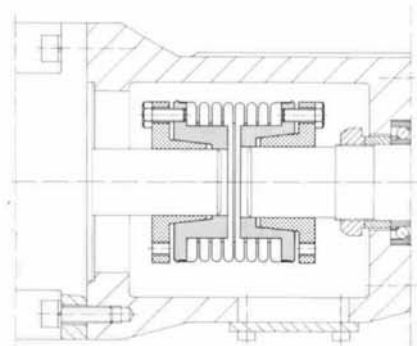

Fig. 8
The output and input shafts must project into the complete length of the taper bushing (2) or clamping hubs (4) respectively (Fig. 8). The hexagon head cap screws (3) in the taper bushings (2) are tightened diametrically opposite in several steps to the "screw tightening torque" mentioned on table 1. First the taper bushing or clamping hub respectively must be tightened completely before the other one is started.